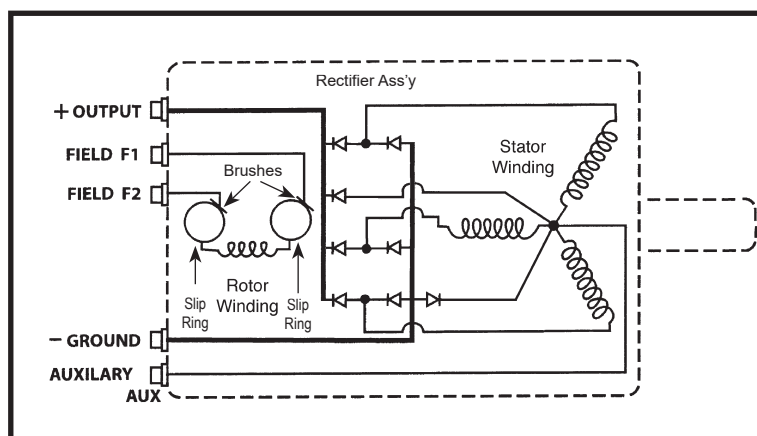

Figure 2.1 - Basic Electrical Diagram
- (1) Hartzell Engine Technologies (HET) small frame, gear and belt driven alternators have been designed and constructed to provide extended periods of trouble-free operation with a minimum amount of maintenance. They are intended to withstand the vibration and extreme temperature changes encountered in aircraft applications. Basic features are identified in Fig. 2.1 thru 2.4B below.
- B. A simplified electrical diagram is shown in Fig. 2.1 which shows the basic electrical operating points and connections.